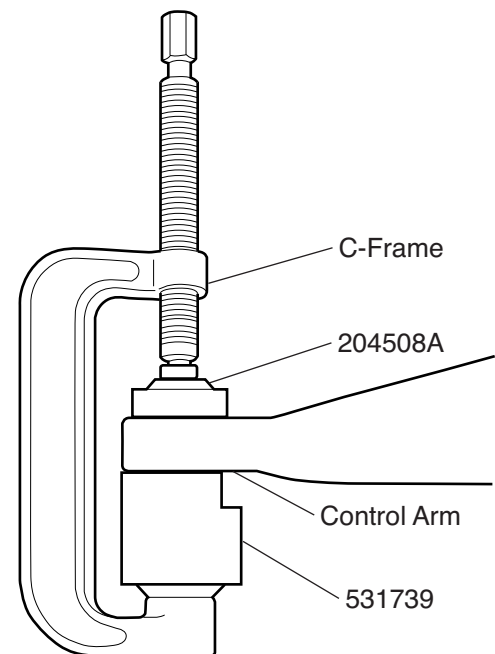

Figure 2. Ball Joint Installation
3. Position 204508A, 531739 (or 29504 and 305227) and the C-Frame on the ball joint as shown in Figure 2.